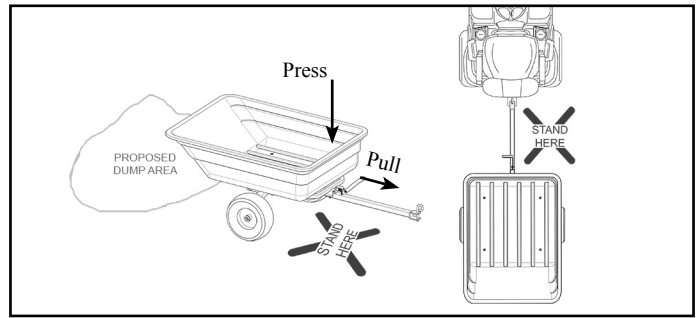

Figure 4.1 - Rear Dump Function
3. Once the bed latch releases, use both hands to maintain control, slowly dump-out bed contents. *Refer to Figure 4.1*